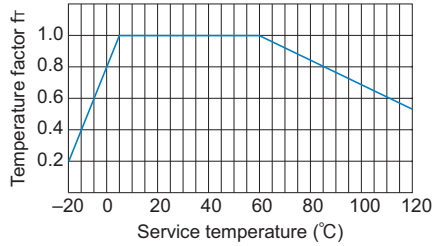

Fig.2 Temperature factor
If the temperature of the spline nut exceeds the normal temperature range, the seizure resistance of the nut and the strength of the material will decrease. Therefore, it is necessary to multiply the dynamic permissible torque (T) and the dynamic permissible thrust (F) by the corresponding temperature factor indicated in Fig.2. Accordingly, when selecting a spline nut, the following equations need to be met in terms of its strength.
- f_r : Temperature factor (see Fig.2)
- F : Dynamic permissible thrust (N)
- P_F : Axial load (N)